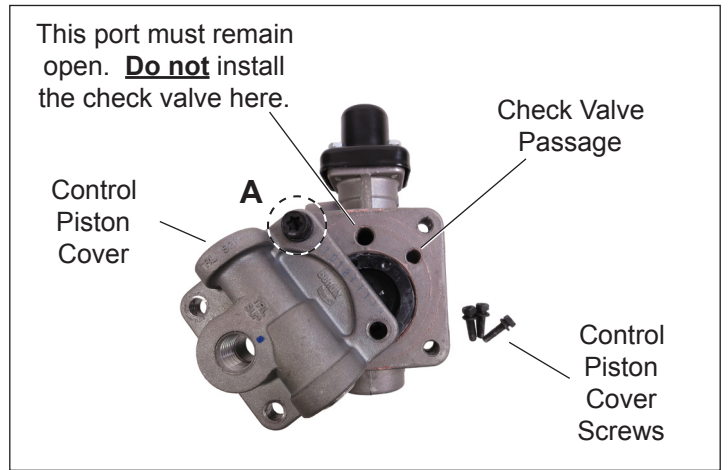

Figure 5 – Check Valve Passage
3. Remove cover screws "B", "C", and "D". While holding the control piston cover in place, loosen cover screw "A" 4-5 turns. Carefully rotate the cover clockwise – pivoting on screw "A" – until the check valve passage in the body is visible. Hold the cover in this position to retain the control piston in the body. *(Refer to Figure 5.)*